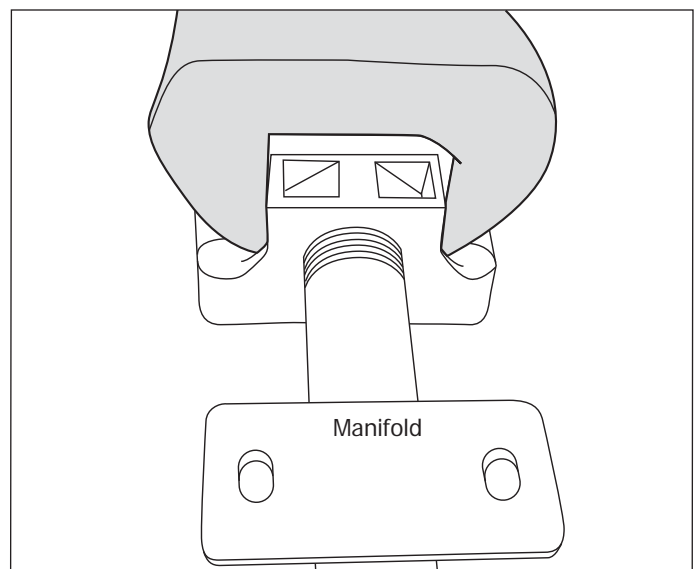

Figure 4-45.
11. Separate the manifold from gas valve by using a 1-3/16" open end wrench or a large adjustable wrench, and grabbing the gas valve body on the square section directly above the manifold. Turn gas valve body counter clockwise to remove. (See Figure 4-45)